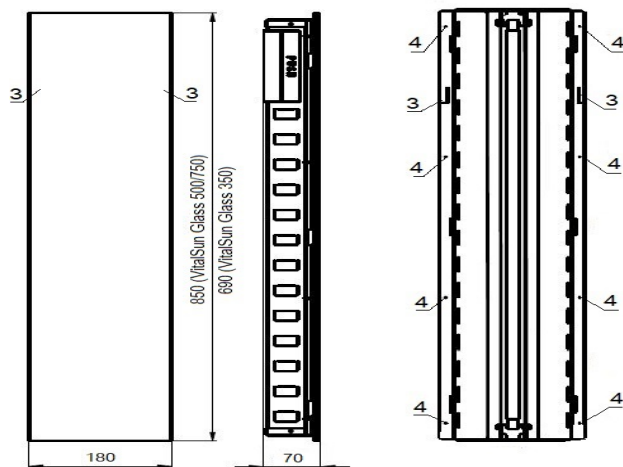

Fig. 3.3 Mounting points of the VitalSun Glass 350/500/750 series radiator
- Dismantling the front panel: release the latch (Fig. 3.3, item 3), move the front panel upwards (in case of vertical installation),
- Screw the heater to the wall in the holes located along the longer edge of the housing (Fig. 3.3, item 4). Use only the screws included with the device.